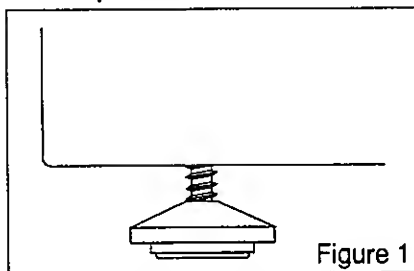

Figure 1
- Place the appliance firmly on a solid base and if necessary level it with the two adjustable feet, located on the front (Fig.1).